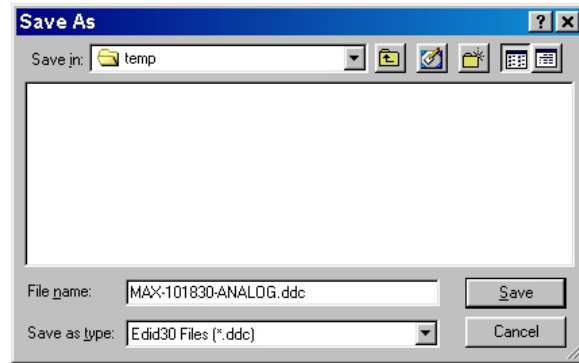

Fig. 25
1. Click (Save) icon (or click "file"-> "save as") from the tool bar and give a file name as shown in Fig. 25. The file type is EDID301 file (*.ddc) which can be open in WordPad. By using WordPad, the texts of DDC data & table (128 bytes, hex code) can be modified. If DDC TEXTS & HEX Table are completely correct, it can be saved as .ddc file to re-load it into DDC IC & EEPROM for DDC Data application.